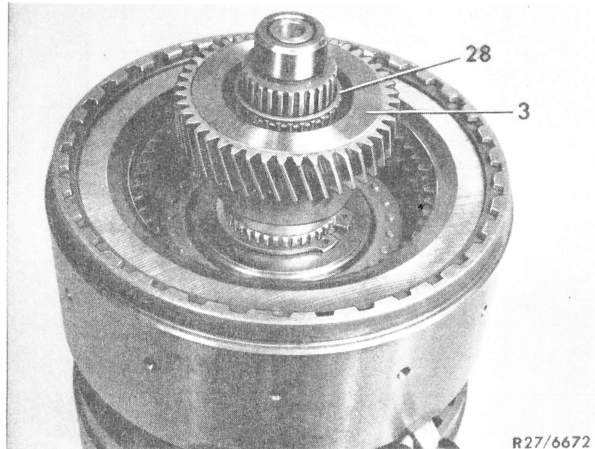

Fig. 4
6 Remove sun gear (3) and needle bearing (28) (Fig. 4).